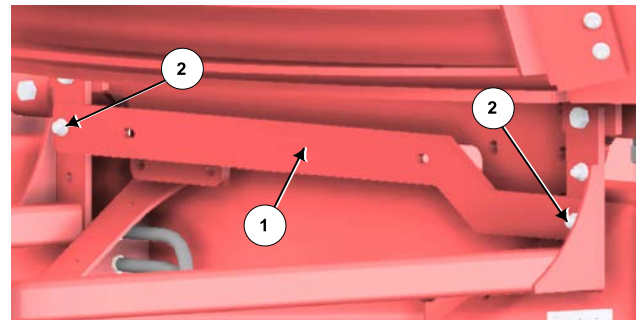
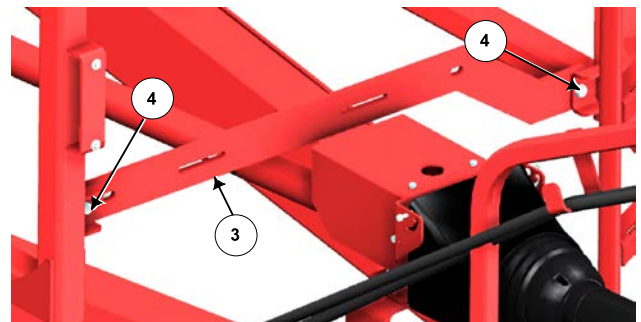

Figure 1: Install the Rear Conveyor Support Bracket
Figure 2: Install the Front Conveyor Support Bracket
3. Install the rear conveyor support bracket (1) onto the platform uprights and below the tub door, see *Figure 1*.
- Fasten the bracket with 2 of ½" x 1-1/2" hex bolts and flange locknuts (2).
4. Install the front conveyor support bracket (3) onto the platform uprights, see *Figure 2*.
- Fasten the bracket with 2 of ½" x 1-1/2" hex bolts and flange locknuts (4).